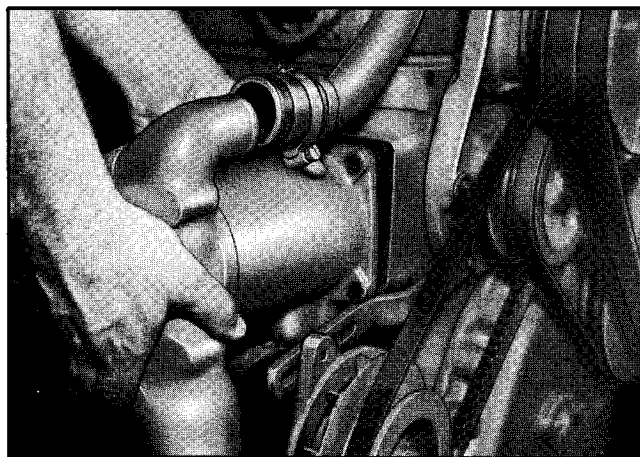

Fig. 4-11. Removing oil cooler
2. Loosen four capscrews and remove the oil cooler from the cylinder block. Fig. 4-11.